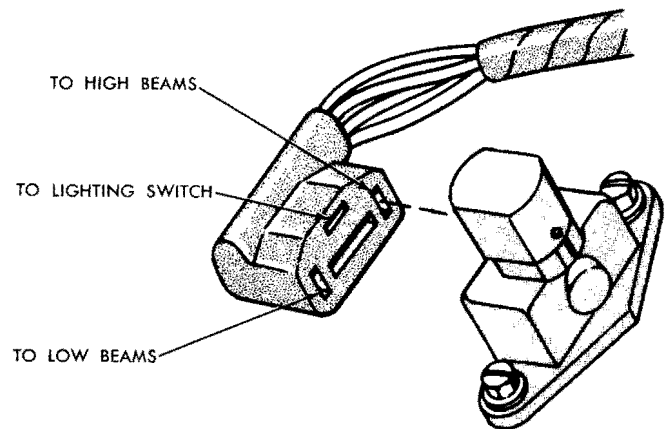

Fig. 17—Beam Selector Switch Disconnect
- 4-4. Leave the light switch ON and check between a good ground and the hot terminal on the headlight switch (Fig. 17). **If there is power, the switch is defective.**